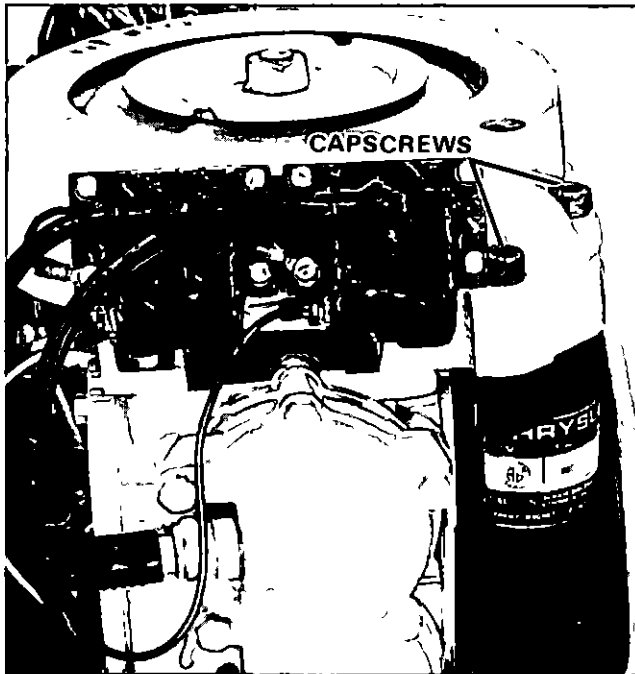

Figure 49. Removing Starter.
- 3 Remove the two capscrews and remove starter motor from starter support housing Figure 49